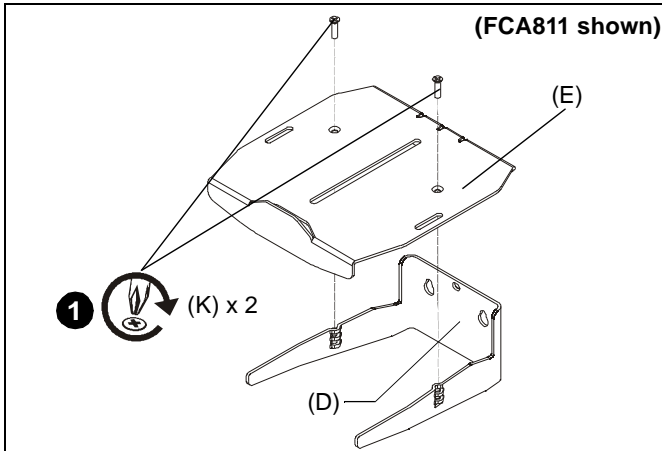

Figure 1
1. Attach shelf (E) to shelf support (D) using two #10-24 x 3/4" Phillips flat head machine screws (K). (See Figure 1)